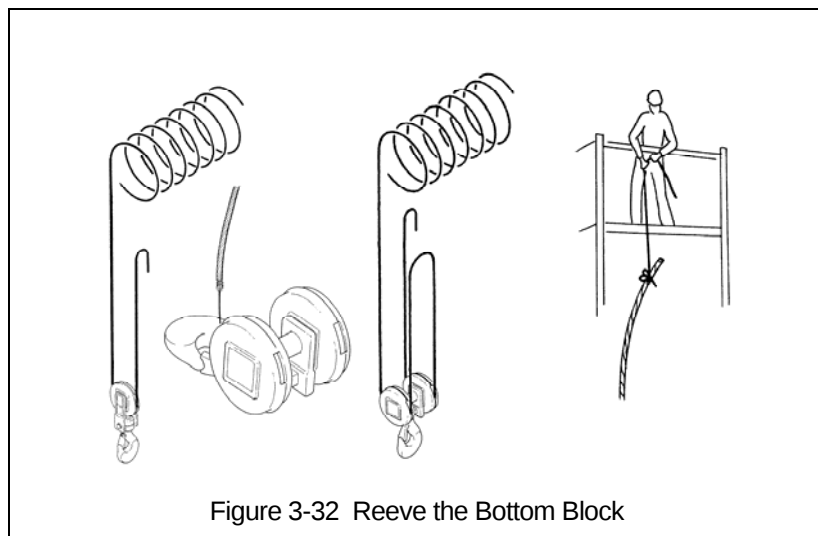

Figure 3-32 Reeve the Bottom Block
- 3) Place the Bottom Block on the ground so that it is positioned perpendicular to the hoist, and insert the rope end into the bottom block as shown in Figure 3-32 for 2/1 and 4/1 reeved hoists (2 or 4 rope-falls). To make rope insertion easier, temporarily attach a wire to the end of the rope with adhesive tape and use the wire to pull the rope through the Bottom Block. Securely tie a string or cord to the end of the rope and pull the wire rope up to the hoist from the scaffolding/platform. For 4/1 reeved hoists thread the rope through the return pulley installed in the hoist, then back through the Bottom Block (see Figure 3-32).